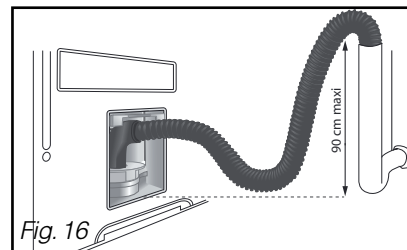

Fig. 16
- To a ventilated trap (Fig. 16).